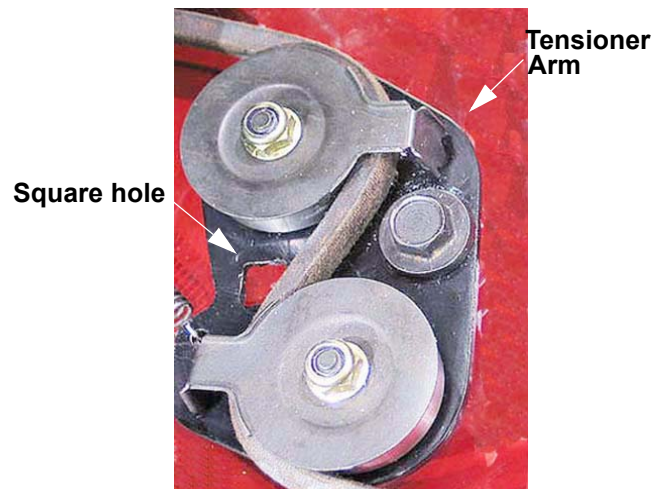

Figure 3.5
- 3.5. Insert a 3/8" breaker bar and extension into the square hole of the tensioner arm. See Figure 3.5.